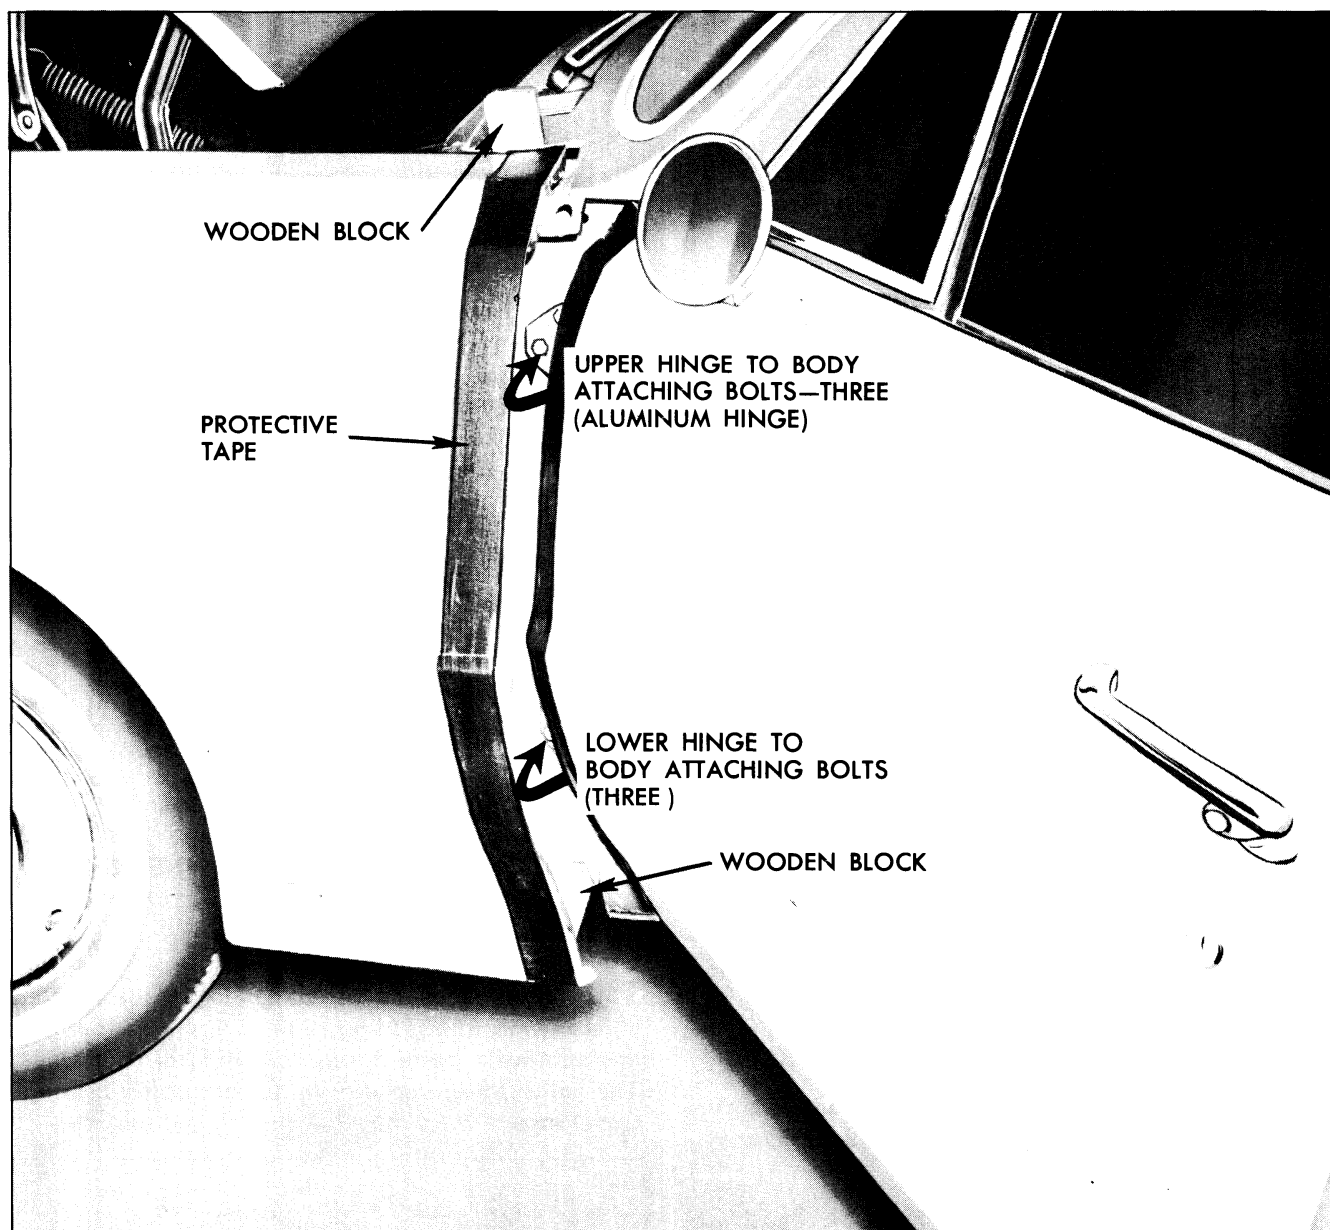

Fig. 12-18 Front Door Hinge Attachment
3. With the aid of a helper, to properly support door, remove bolts securing upper and lower hinges to body and remove door assembly (with hinges attached) (Fig. 12-18).